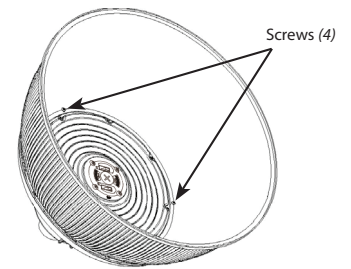

Fig. 4
3. Secure the Refractor to the Heat Sink with (4) 4x8mm Screws for H17 (provided) and (4) 4x10mm Screws for H17XL (provided) as shown in Fig. 4.